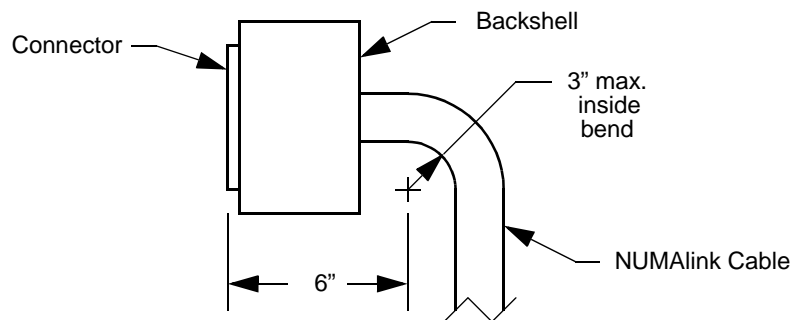

Figure 1-1 NUMAlink Cable Bend Radius
- Avoid bending DNET cables beyond the recommended bend radius as illustrated in Figure 1-1.